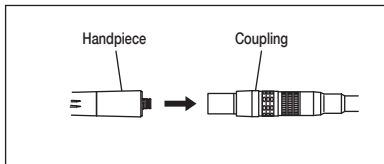

Fig. 8
- 2) Insert the handpiece firmly onto the coupling until it clicks to engage. (Fig. 8)